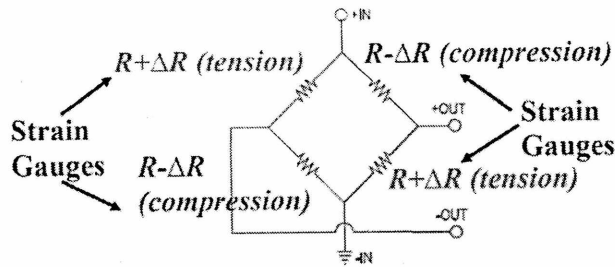

Figure: Q-5 (i)
Q-5 (i) Figure Q-5 (i) shows the full bridge circuit for sensing the pressure. There are 4 strain gauges in the circuit. Derive the expression for the V_{out} in terms of Gauge factor (GF), ϵ (strain), and V_{in} . [6M]